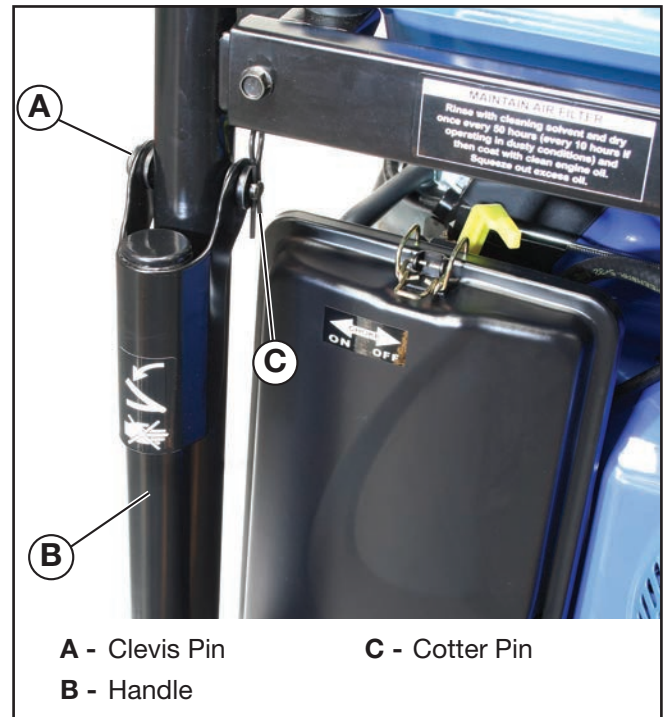

Figure 7 – Attaching Handle to Frame
5. Install each handle using a clevis pin and cotter pin as shown in Figure 7.